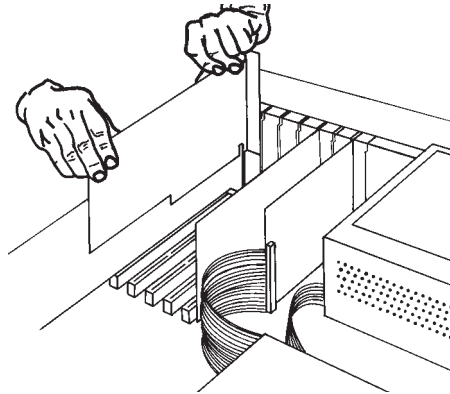

Figure 2-1
7. Firmly press the card into the PC socket connector. See Figure 2-1, for the 8150 and 8160. The 8155 is installed.